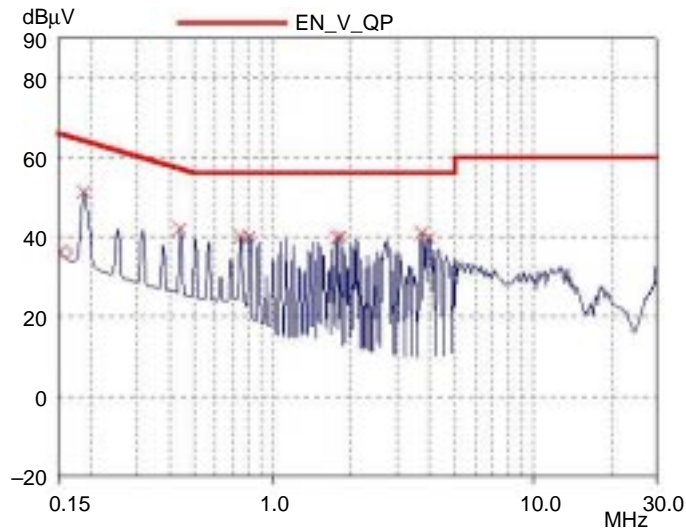

Figure 8. The final composite QP plot carried over one line while the other is loaded (230 VAC, $P_{out} = 10\text{ W}$)
The 10 W NCP1200 demo board is equipped with a front stage filter who lets you pass the CISPR22 EMI tests in both quasi-peak and average detector methods. The method we used for calculating the filter is described in AND8032 “Conducted EMI Filter Design for the NCP1200”. The front stage is made of a single common mode (CM) choke whose wiring method gives enough leakage inductance for differential mode (DM) filtering. Figure 8 plots the final CM+DM noise component confirming the test passing.